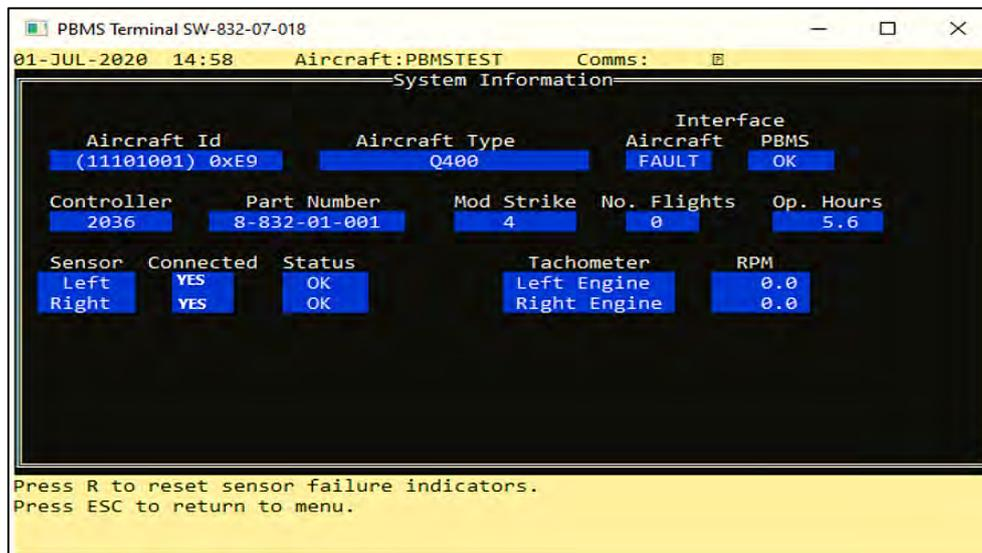

Figure 5-4 System Information
- (3) The Information shown on the PBMS Terminal is as follows (**Ref Fig 5-4**).